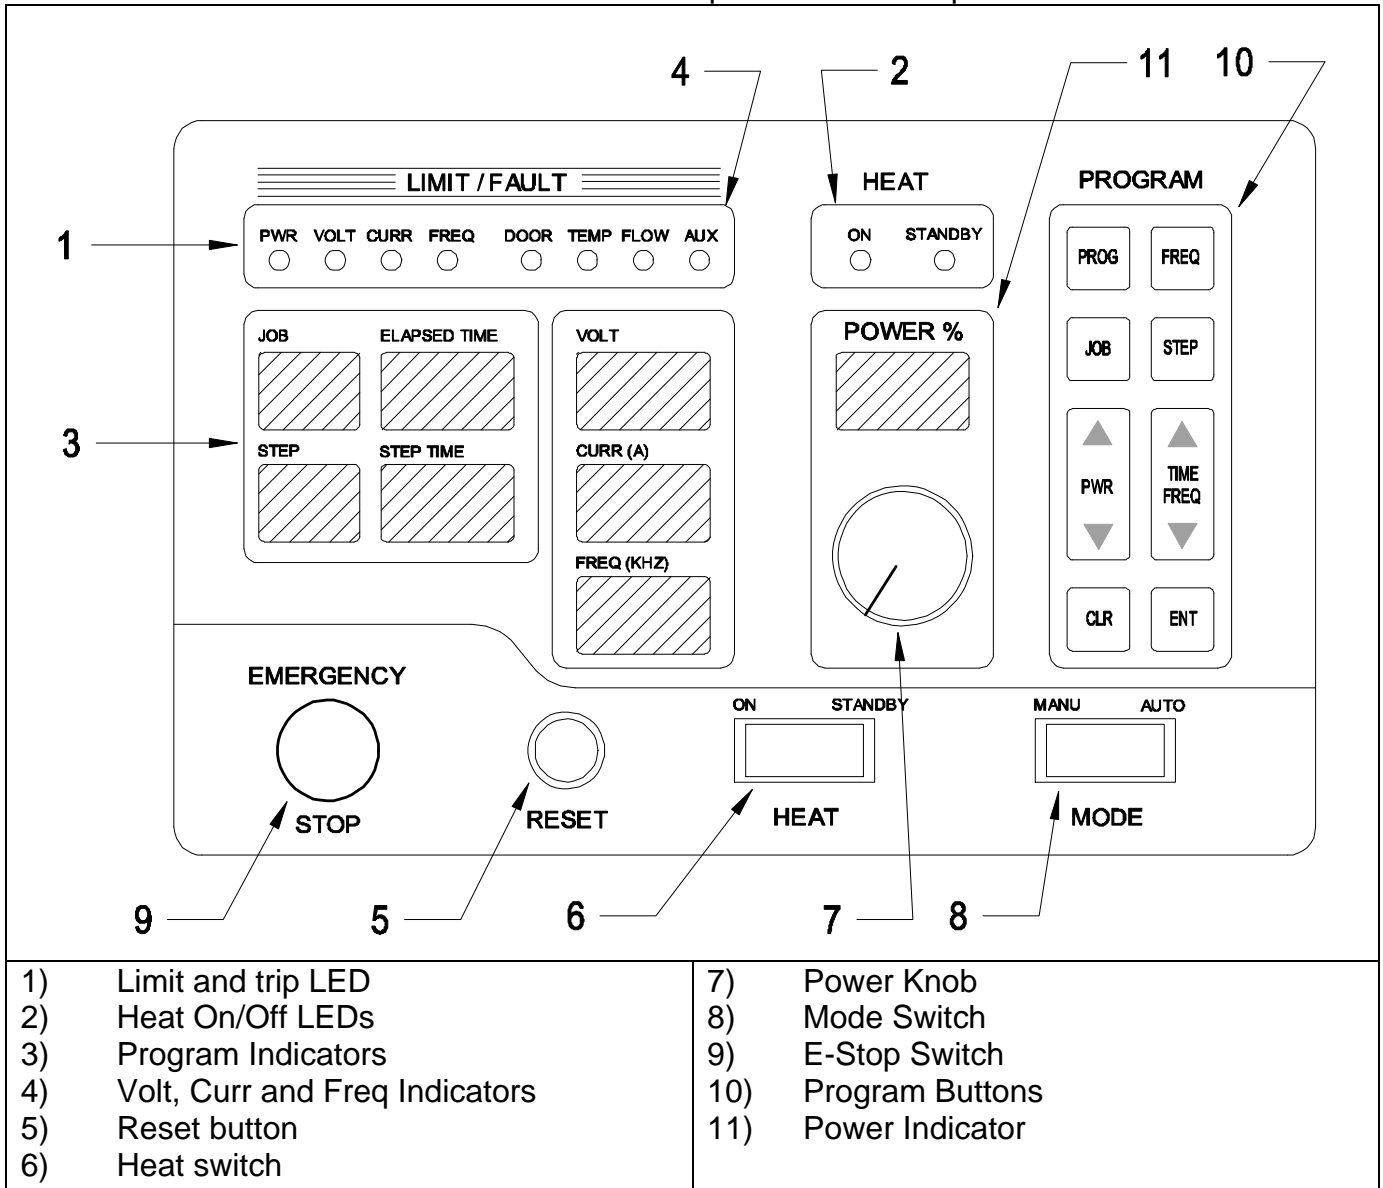

Figure 2: Front panel layout for model 3-135/400-3.
Identified by 1 in **Figure 2** on page 9.
These LEDs show whether the power supply is generating output or is off. (identified by ② in Figure 2 on page 9).
Identified by ② in Figure 2 on page 9. These read-outs display the programs status when using the AUTO mode. The STEP TIME indicator display minutes and the ELAPSED TIME indicator displays seconds during manual mode operation.
Identified by ③ in Figure 2 on page 9. These read-outs display the output voltage, the inverter current and the operating frequency when the power supply is operating.
Identified by ⑤ in Figure 2 on page 9. This button is used to clear the fault indicators if a run-time or interlock trip has occurred. Depressing the button will light the limit and trip indicators and clear the latch for the fault indicator. If the LED does not go out, then the reason for the fault is still present.
Identified by ⑥ Figure 2 on page 9. When the power supply is energized, and no fault indicators are lit, putting this switch in the ON (I) position will start the power supply delivering heat. When moved back to the OFF (O) position, the heating will be terminated. While in AUTO mode, the ON position initiates the heat cycle. Putting the HEAT switch in the OFF position will terminate the heat cycle.
Identified by ⑦ in Figure 2 on page 9. The power pot sets the requested power level as indicated by the POWER read-out. The level of power output is indicated by the same POWER readout once the heat switch is on. This pot is disabled during AUTO mode operation.
Identified by ⑧ in Figure 2 on page 9. In the manual position, MAN, the power supply turns on with the HEAT switch and power level is controlled by the POWER POT. The programming the AUTO mode is done with the MODE switch in the MAN position. In the automatic position, AUTO, the power supply runs programmed jobs. The heat cycle is initiated with the HEAT switch and the power levels and duration of the cycle are controlled automatically, as programmed.
Identified by ⑨ in Figure 2 on page 9. Pressing the E-Stop switch will stop a heat cycle and operate the shunt trip to open the circuit breaker.
Identified by ⑩ in Figure 2 on page 9. The program buttons are used to program and display jobs for the power supply to run automatically. See section 5. on page 13 for a description of how to program the power supply.
Identified by ⁽¹¹⁾ in Figure 2 on page 9. This read-out displays the demand power when the unit is in standby or program mode, and displays the power output when the heat cycle is in progress.
1. Ensure that the heat switch on the front panel is in the OFF position, that the MODE selection switch is in the MAN (manual) position and that the power level knob is turned fully counter-clockwise (see Figure 2 on page 9). Turn on the circuit breaker. The green STOP indicator should light up, indicating that the unit is powered up. Press the reset button if any red trip indicators are lit.